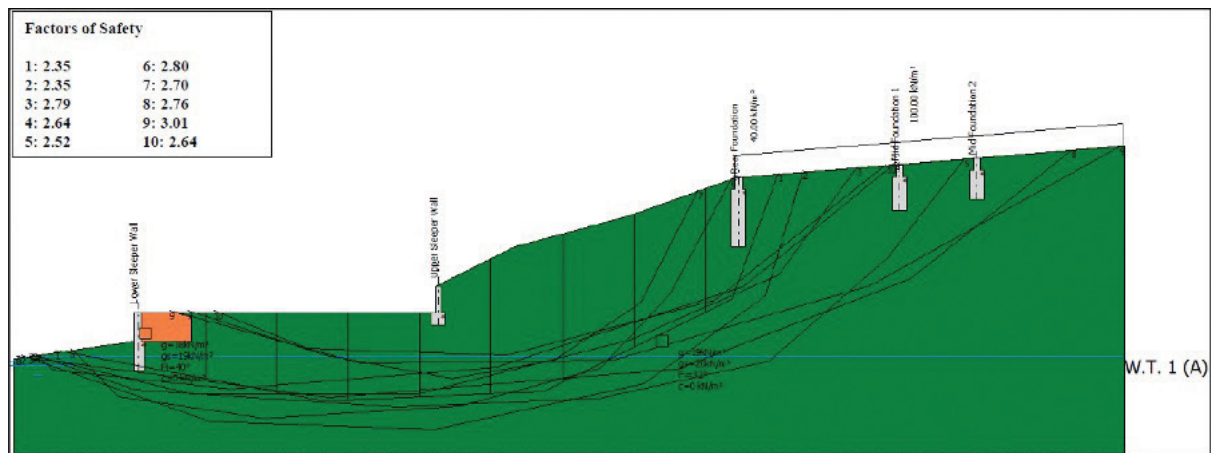

Figure 1: An example of the Janbu simplified method
- **Janbu Simplified** - Slope failure plains are drawn freely within the slope, assessed and assigned a factor of safety (Figure 1)